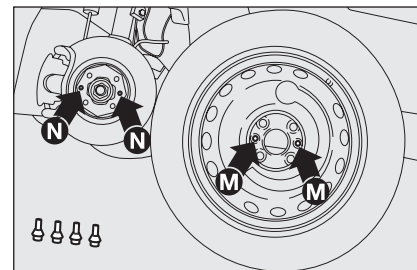

fig. 15
- fit the space saver spare wheel making the holes **M**-fig. 15 coincide with the corresponding centring pins **N**;